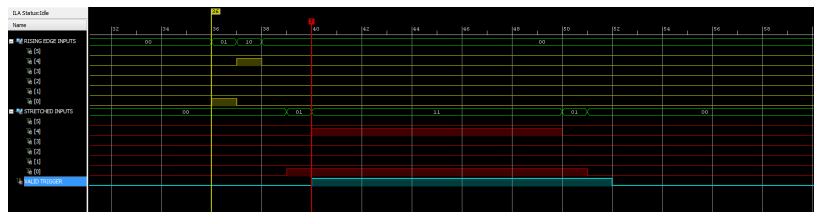

Figure 5.3: Trigger configuration 0x00020002. The valid trigger (blue) is asserted if IN_1 is high OR when IN_1 and IN_5 are both high at the same time.
- Trigger **LSB** word= 0x00020002. This indicates that a valid trigger is achieved in two separated configurations (in logic OR): when both inputs are high at the same time (as in the previous case) or if IN_1 is active on its own. This is illustrated in figure 5.3. It can be seen that the valid trigger is asserted immediately one clock cycle after IN_1 is high and remains high as long as this condition is met. One might assume that specifying the combination with IN_5 is redundant, but the following example should show that this is not the case.